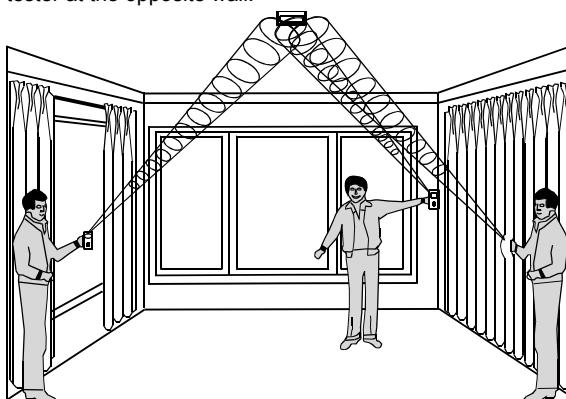

Figure 10. Testing the GB-501 PG2
4.3 Testing the Sensor (see Figure 10).